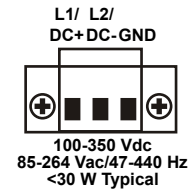

Figure 2.4: Universal Power Supply Inlet Connector
**Universal:** Terminal power strip with Surge Withstand Protect Circuitry (SWC), and inlet supply with a range of 85 Vac to 264 Vac, 47 Hz to 440 Hz, and 110 Vdc to 370 Vdc. (see Figure 2.4).